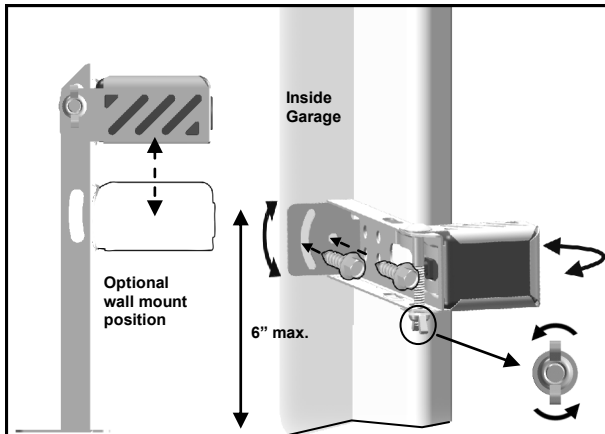

Fig. 1 (Wall Mount)
1. Place the photo eyes facing each other on each side of the garage door. Position the sensors so they are no higher than 6" (15cm) above the floor, as shown in Fig.1.